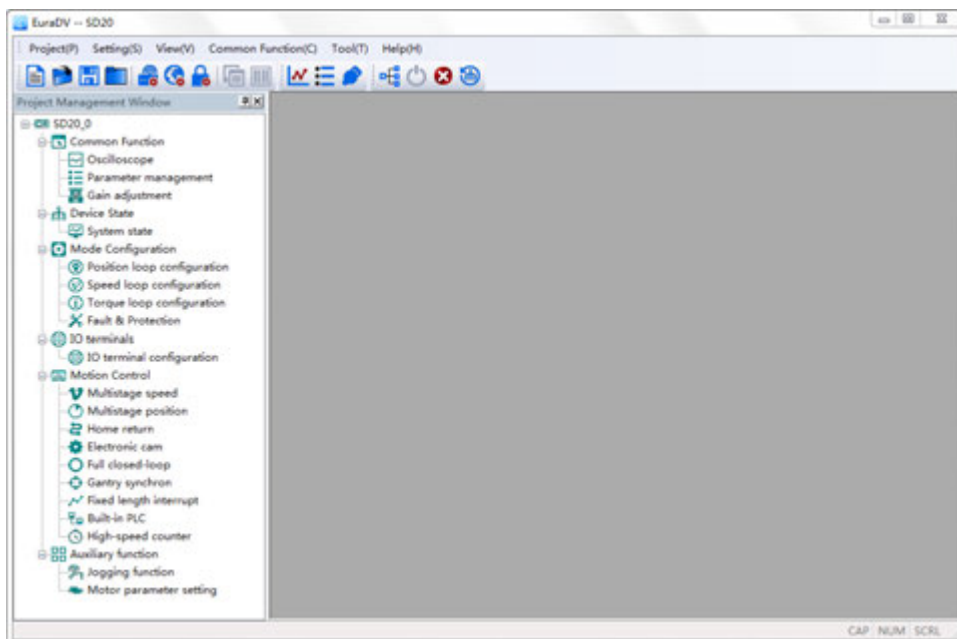

Fig 3-4 New Project Main Interface
4. After user selects product type, click “OK” to popup new project window(Fig 3-4);